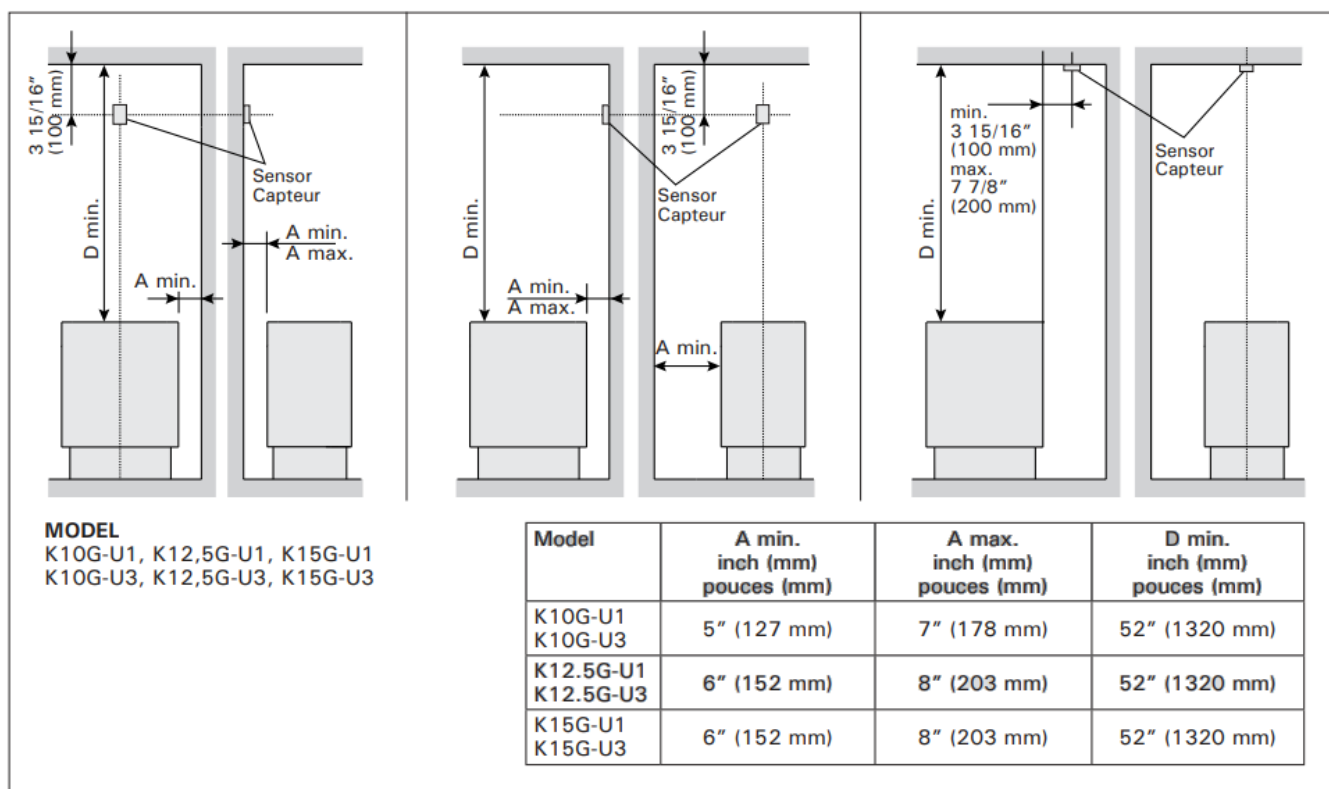

Figure 7. The place of the temperature sensor of the control unit in connection with floor-mounted heaters
3.3. Installing the Temperature Sensor Floor-mounted heaters (see Figure 7)